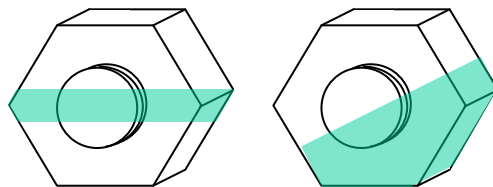

Figure 7. Slippage paint indication.
- Ensure that fastener has not slipped by inspecting the paint indication. See Figure 7.
3. Repaint the fastener slip indicator when necessary. Paint as shown in figure 7.
4. Link retaining fastener. Threaded link retaining fasteners that use a bolt and self-locking nut, may be retightened in accordance with the table 2: Link Fastener Torque Values. Then paint as shown in figure 7. Other fastener systems shall be sent to the manufacturer to be repair.